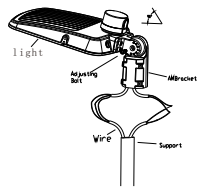

Figure 13
Step 1: Loosen the four bolts on AM bracket, connect the wires correctly, and pull the wires into the poles.(Figure 13)